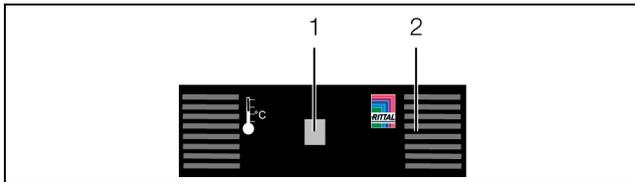
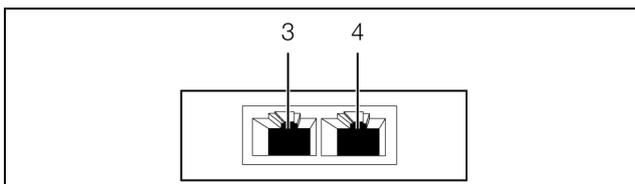

Fig. 12: Front of the temperature sensor
Fig. 13: Rear of the temperature sensor
A multi-LED for the status display is integrated into the front of the temperature sensor (fig. 12, item 2). Further LEDs are located at the rear on the CAN bus connection (fig. 13, item 3 and item 4).